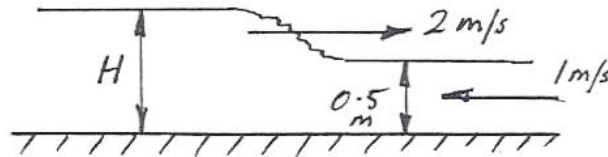

Figure P10.38
10.38 A planar bore moves at a speed of 2 m/s against a flow that has a speed of 1 m/s and a depth of 0.5 m , as shown in Figure P10.38. Find H , the depth of the water behind the bore.